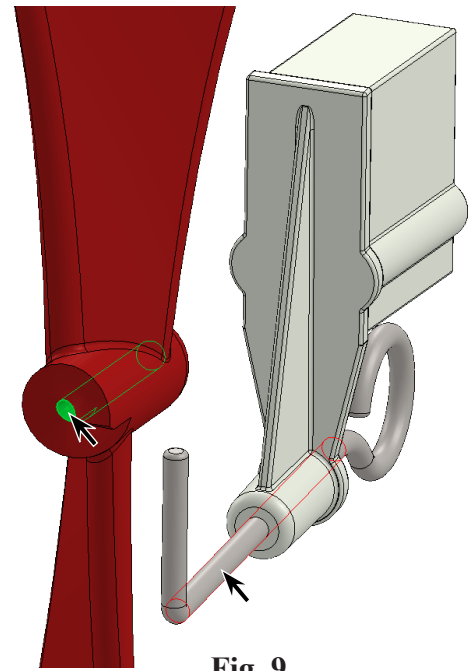

Fig. 9
Step 2. Rotate view slight to view **inside cylindrical face of Propeller hole** as shown in **Fig. 9**. Hold down middle mouse button (wheel) and drag.
Step 3. Click **inside cylindrical face of Propeller hole** and **cylindrical face of horizontal section of Wire**, **Fig. 9**. Click Add/Finish Mate  to add **Concentric** mate.